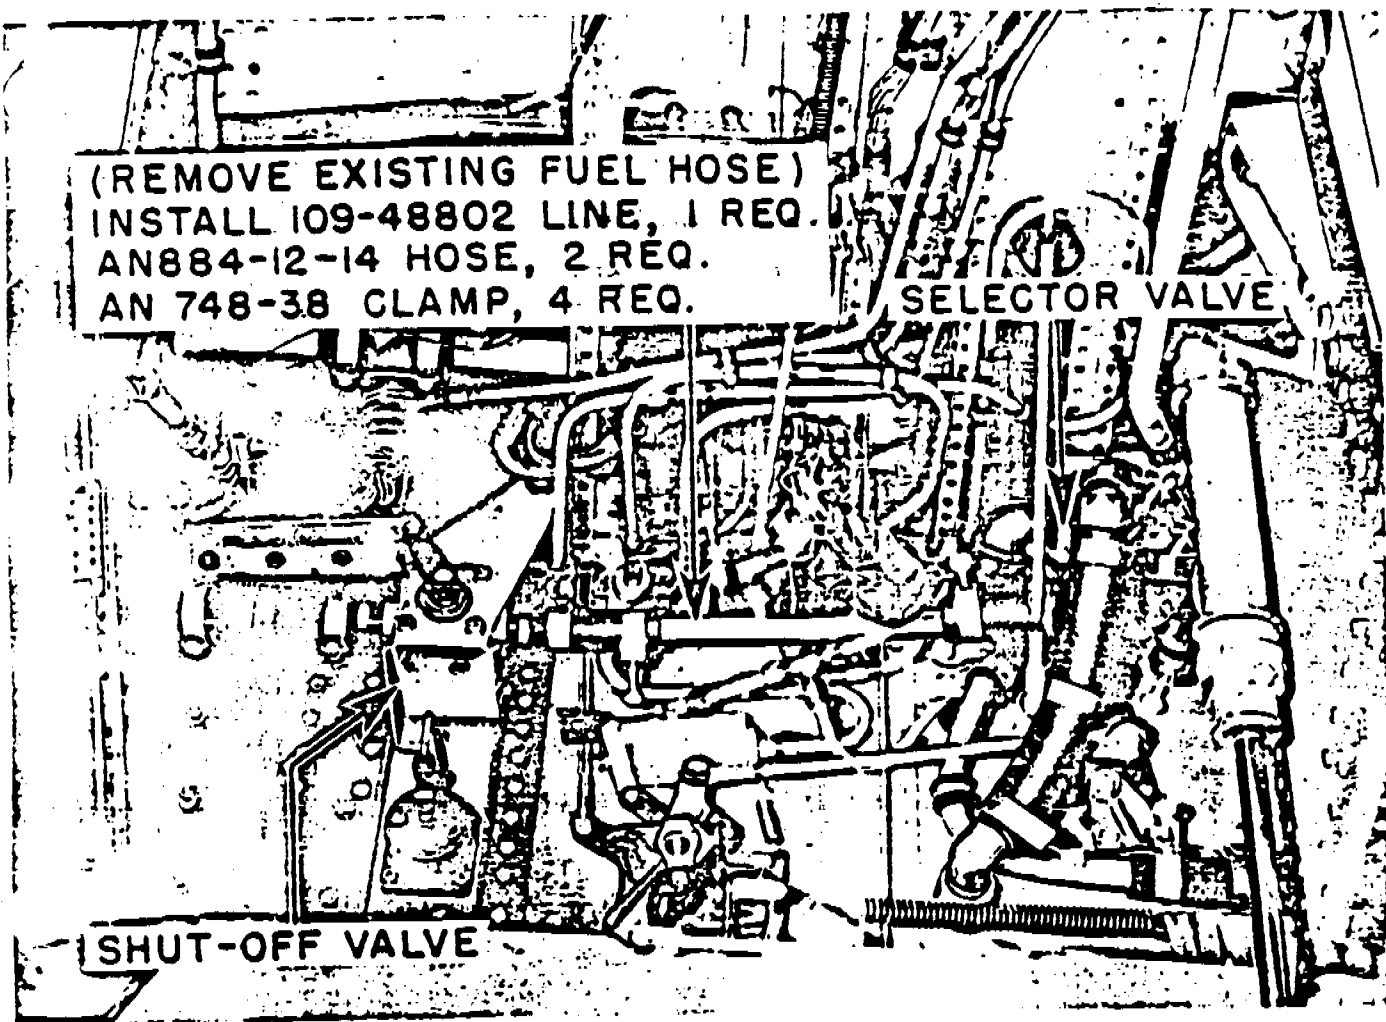

Figure 2 - Left-hand Wheel Well - P-51D Airplanes
(1) Locate the fuel hose, part No. 106-488101-19, in LH wheel well, connected to the fuel shut-off valve and fuel selector valve.
(2) Remove hose, part No. 106-488101-19, by detaching the clamps on each end and the supporting clamp at the timing valve bracket. (See figure 2.)
(3) File or cut the timing valve bracket approximately 3/16 inch to provide clearance for the new line.
(4) Install fuel line, part No. 109-48802, using two hoses, part No. AN884-12-14, and four clamps, part No. AN748-38. Attach line to timing valve bracket using parts previously removed.
(5) Push in emergency landing-gear fairing door knob and close LH fairing door.
(6) Turn fuel control valve to "ON" and fuel selector valve to "FUS. TANK" or "MAIN TANK" position.